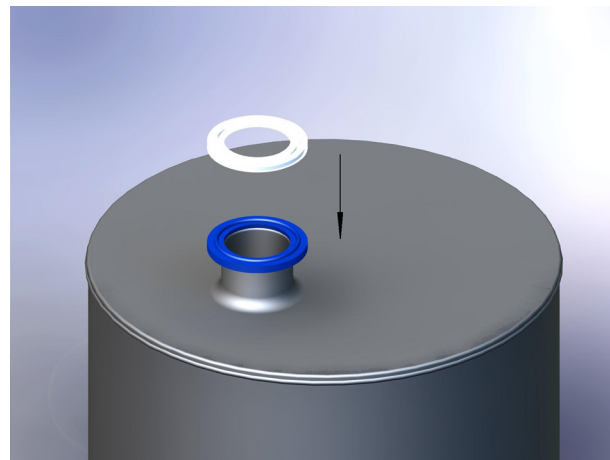

Fig. 4-4: Inserting the seal
1. Insert suitable seal (see Figure 4-4).